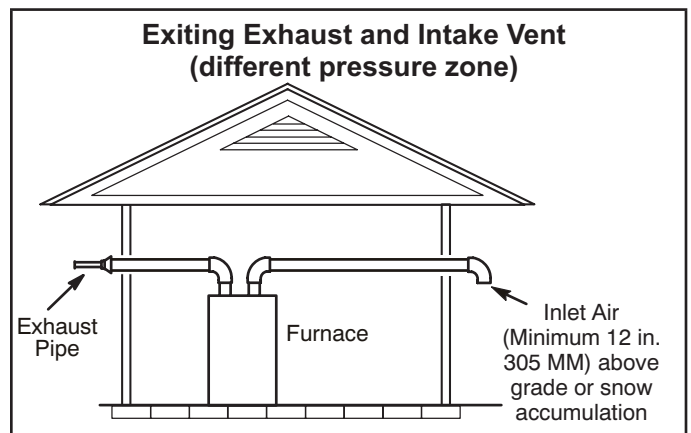
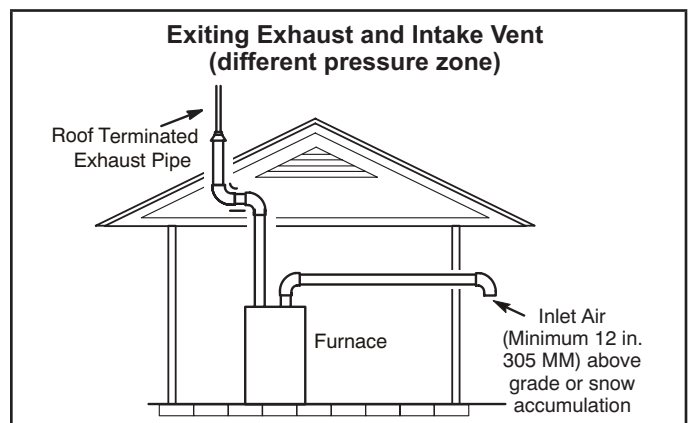

FIGURE 35
FIGURE 36
- 1 - Intake and exhaust terminations are not required to be in the same pressure zone. You may exit the intake on one side of the structure and the exhaust on another side (FIGURE 35) you may exit the exhaust out the roof and the intake out the side of the structure (FIGURE 36).